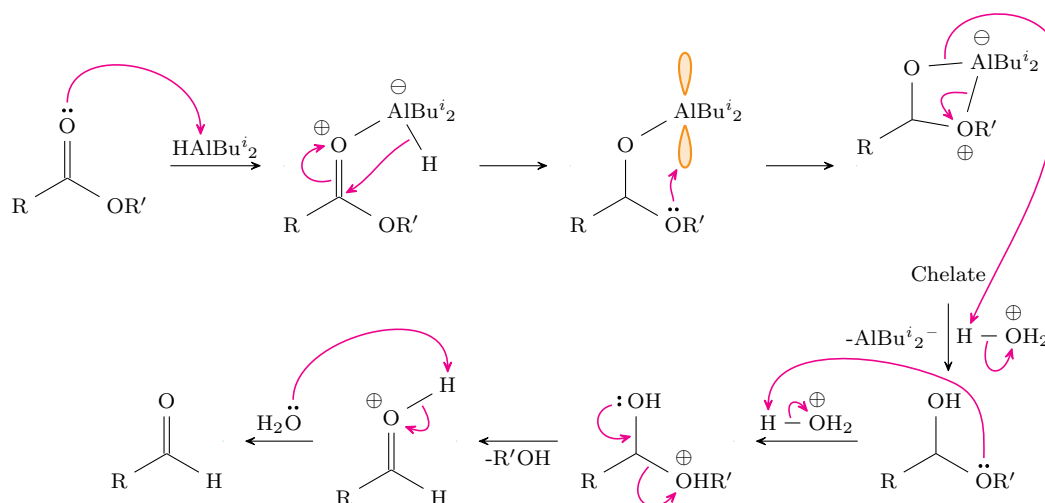

Figure 3.3: Monoreduction of esters mechanism.
- As in Figure 3.3, the heteroatom (nitrogen) attacks the aluminum of DIBAL-H to start. We then undergo the same proton rearrangement to get to a stable species. However, instead of forming a chelate, the acid takes us to the same imine as in Figure 3.6, and then further to the aldehyde (also as in Figure 3.6).